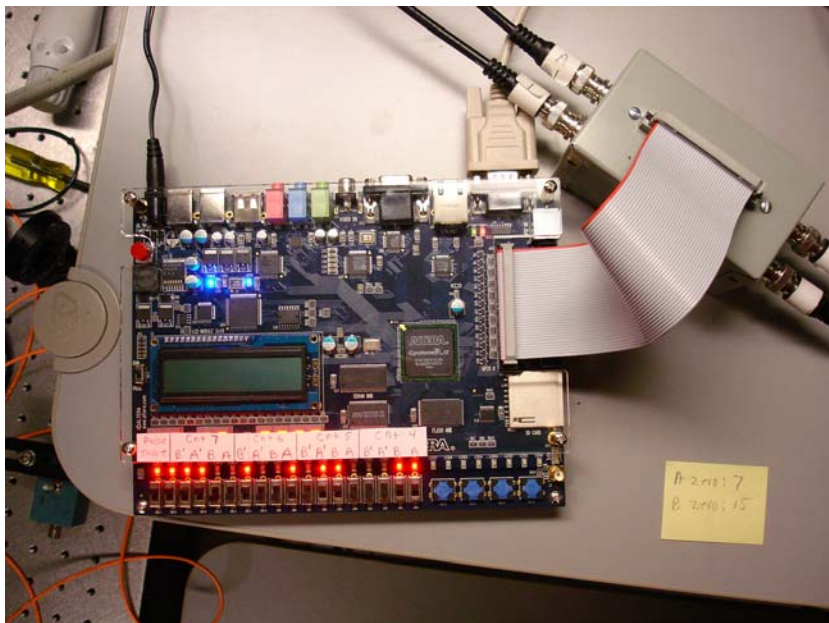

Figure 4: The CCU.
The SPCM's output an electrical pulse every time they detect a photon. These pulses then go to the coincidence counting unit (CCU), shown in Fig. 4. The CCU takes inputs from up to four detectors, and uses a programmable logic chip (a field programmable gate array, or FPGA) to implement eight 32-bit counters. Four of the counters (Counter 0 – 3) are for the input signals (called singles counts), while the other four counters (Counter 4 – 7) count arbitrary 2-, 3-, or 4-fold coincidences. Switches determine which coincidences are counted, as shown in Fig. 5. Data is streamed from the CCU to a host computer over an RS232 serial interface.
- Place the A-detector so that it makes an angle of approximately 3° from the pump laser, and that its base is pushed up against the ruler (as shown in Fig. 4).